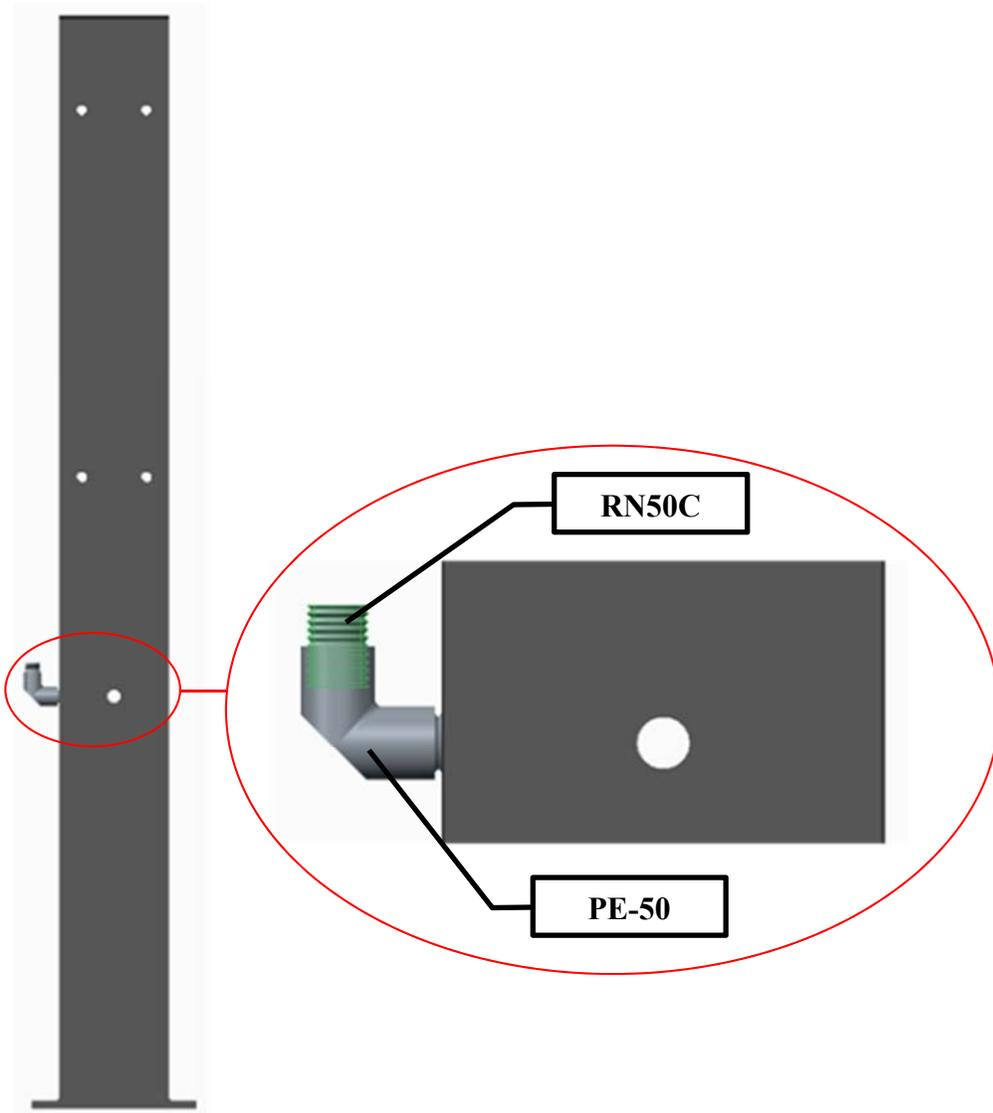

Figure 8: Installation of Second Conduit Nipple
- C. Install 1/2" Conduit Nipple RN50C into 1/2" Conduit Elbow PE-50 in the appropriate locations. See Figure 8.